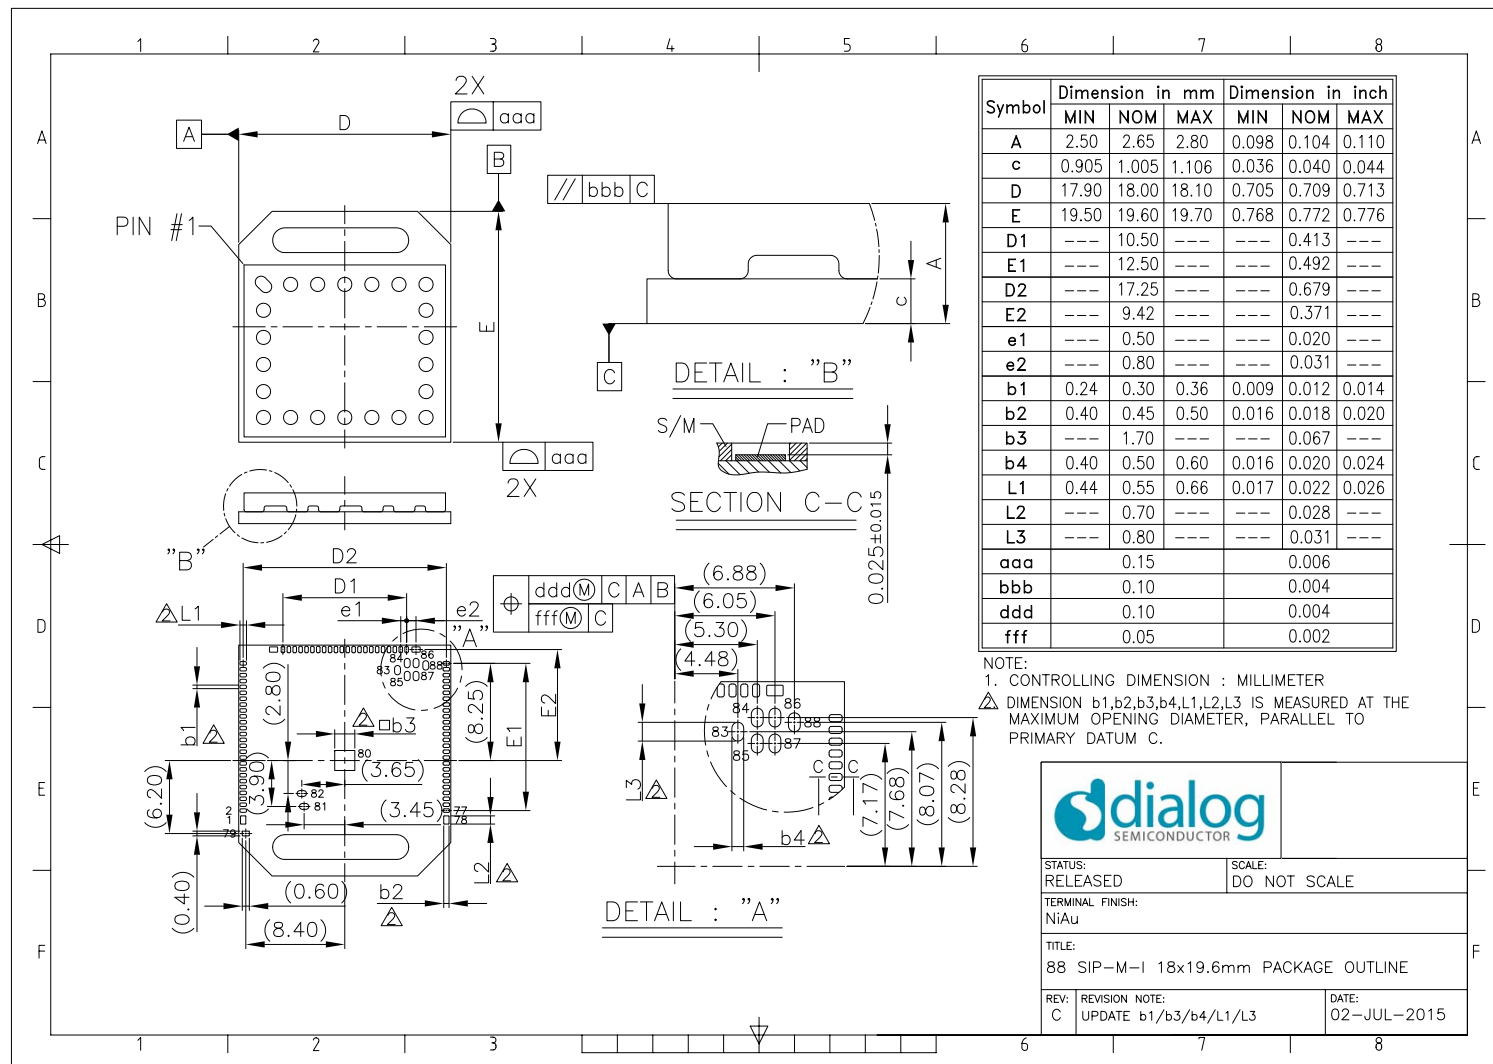

Figure 21: Package outline drawing
- Package outline drawing updated (Figure 21).